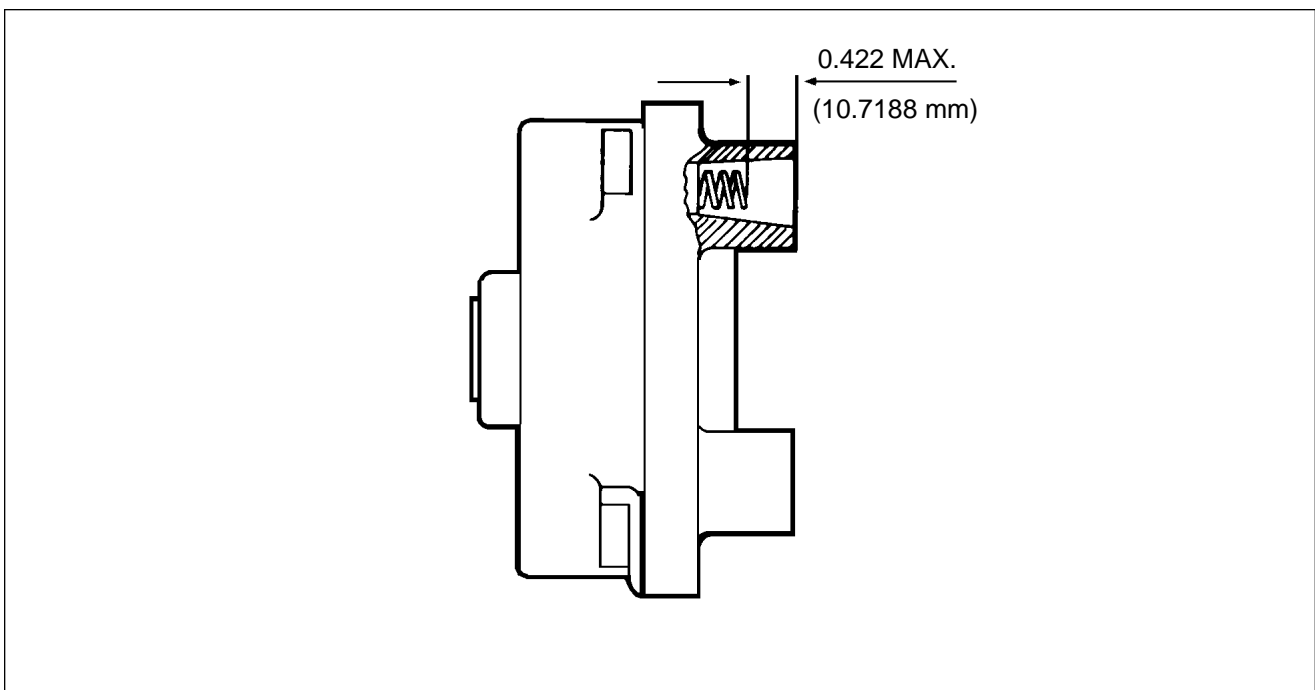

Figure 74-2. Contact Spring Inspection
4. Should this not be possible, a visual inspection may disclose the source of trouble. Remove the harness outlet plate from the magneto. Inspect for the presence of moisture and foreign matter on the rubber grommet and high tension outlet side of the distributor block. Check height of block contact springs. The top of the spring must not be more than 0.422 of an inch (10.718 mm) below the top of the tower as shown in Figure 74-2. If the springs are broken or corroded, replace them.